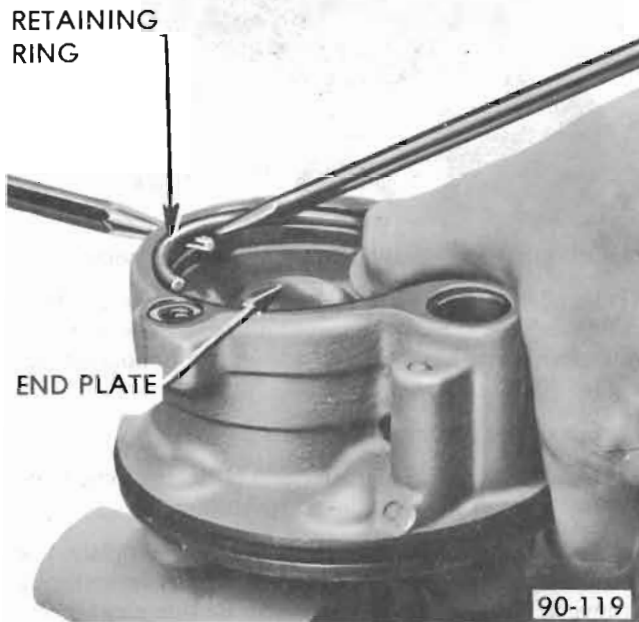

Figure 90-65 Removing End Plate Retaining Ring
9. Rotate end plate retaining ring until one end of ring is over hole in housing. Spring inward on one end of ring with 1/8" punch to allow screwdriver to be inserted and lift ring out. See Figure 90-65.